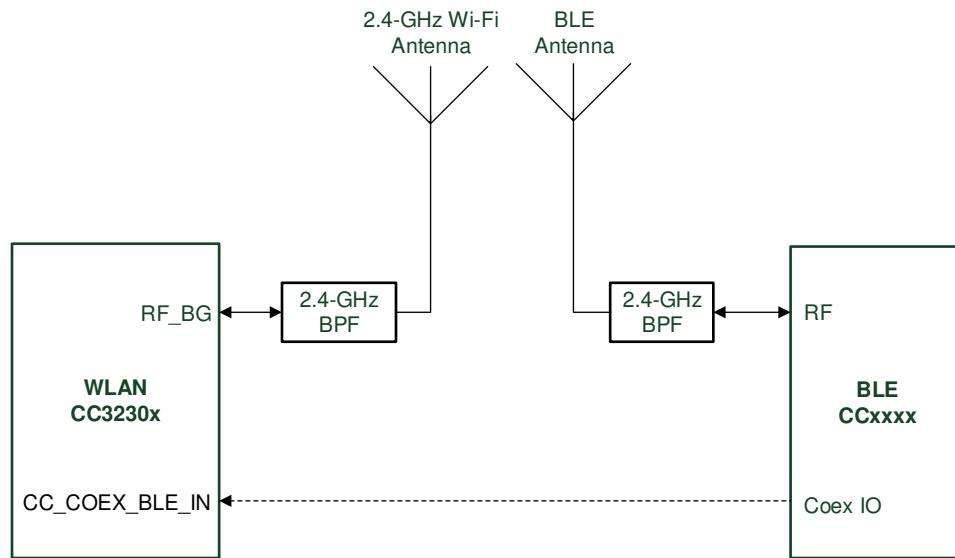

Figure 9-2. Dual-Antenna Coexistence Mode Block Diagram
- In this mode, (see Figure 9-2) the two entities have separate antennas, no RF switch is required, and only a single GPIO (on input from the WLAN perspective).
Figure 9-2 shows the dual antenna implementation of a complete Bluetooth low energy and WLAN coexistence network. Note in this implementation no Coex switch is required and only a single GPIO from the BLE device to the CC3230x device is required.